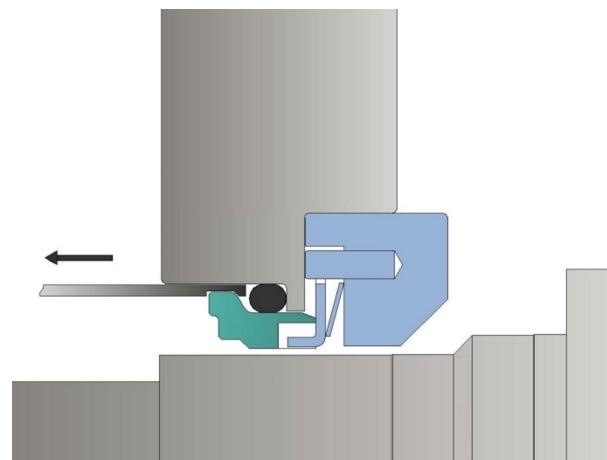

Figure 20- Seal seat removal
- Carefully remove the static seal seats (80) from their bores in the rotor case (51). This is done by using the special seal removal tool (182) supplied with the pump. Carefully insert the seal removal tool between the outside diameter of the static seal seat and the bore in the rotor case. (Figure 20)
- Push back the O-ring with the end of the tool and rotate the tool by 90 degrees, until the hooked end locks in position behind the seal seat. (Figure 20 & 24)
- The joint ring (83) may come out with the seal face. If not, then remove it from the rotor case bore and keep it together with the seal face.